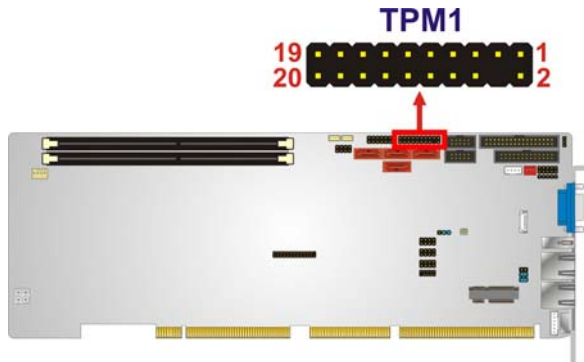

Figure 3-23: TPM Connector Location
- CN Location:** See **Figure 3-23**